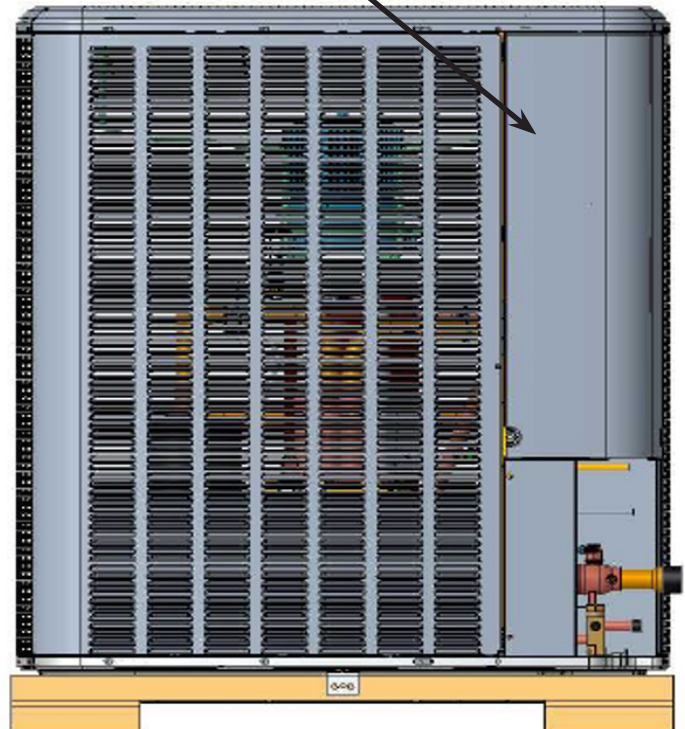

Figure 1
2. Remove and save the control box cover from the unit. Save the screws which held it in place (Figure 1).